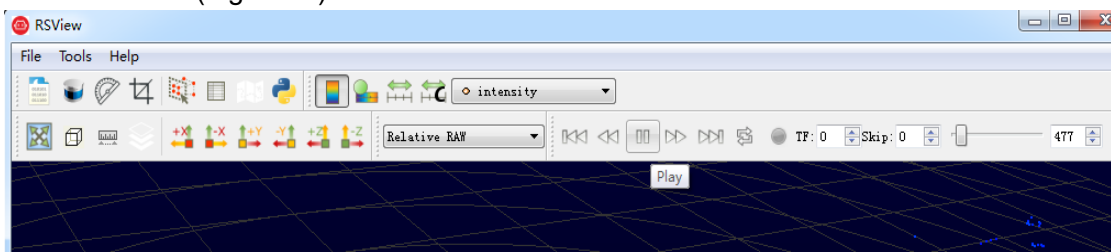

Figure A-15 RSVIEW Play button and Scrub tool
4. Click **Play** button to play or pause 3D point cloud data streaming. Using the **Scrub** tool to select the interested frame. The **Scrub** tool and the **Record** button are in the same toolbar(Fig. A-15).